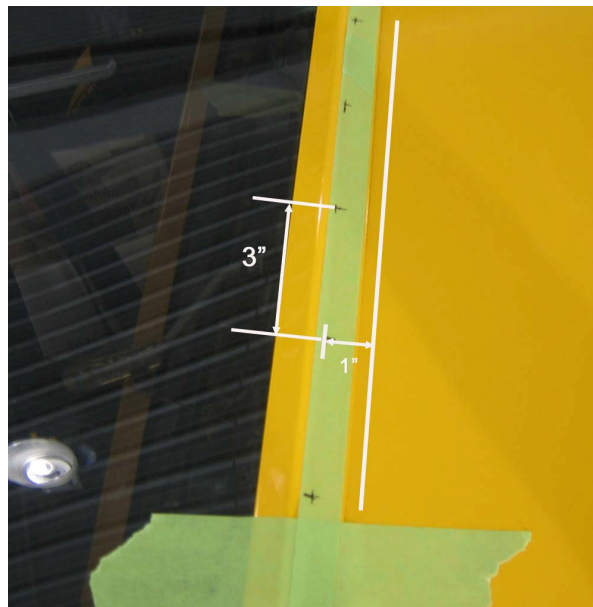

Figure 3 – Masking Tape for Measurement
4. Place masking tape to outboard flange for laying out measurements. See Figure 3.
5. Measure 1" inboard of rib flange edge. Flange edge is under the fabric and will be near the edge of fabric tape edge. See Figure 3.
6. Mark directly across from tape mark (on skylight) and then measure 3" both forward and aft of tape. Lay out holes (3" spacing) on entire length of Strip. See Figure 3.